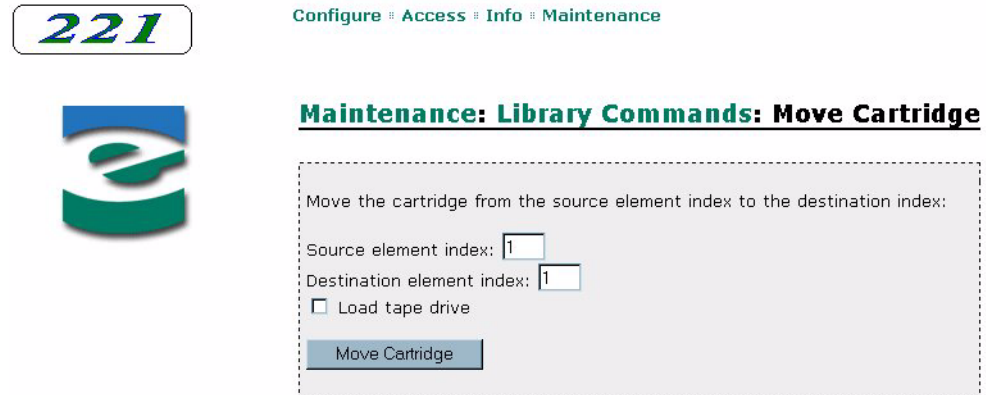

Figure 6-39 Remote management utility – Move Cartridge page
4. Click on Move cartridge. A page similar to Figure 6-39 appears.